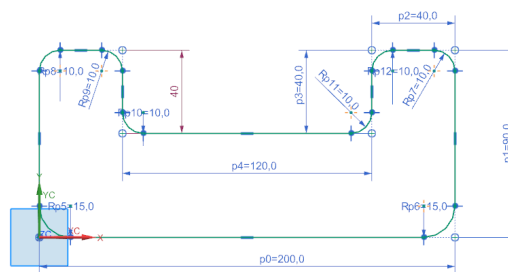

Figure 2-57 Sketch after creating fillets
- Right-click and then choose the **OK** option from the shortcut menu to exit the **Fillet** tool. The fillets are created, refer to Figure 2-57.